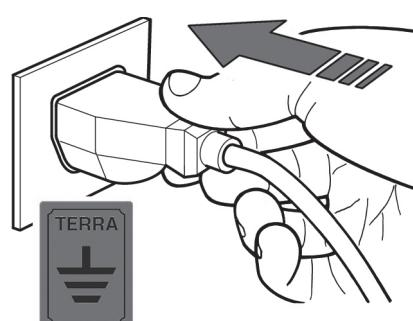

fig. 10
- It is imperative that the complete equipment is properly connected to an efficient earth connection (fig. 10).
- 2) Insert the power plug into the socket provided by the customer (fig. 10), making sure that it has earth contact and that there are no multiple sockets connected .